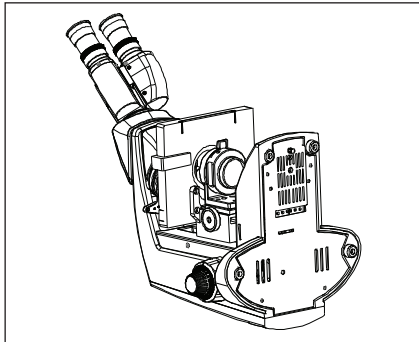

Fig. 1
2. To avoid potential electrical hazards while replacing either LED, turn the microscope main switch to the OFF position and disconnect power cord from wall outlet in advance. Whenever you replace your microscope LED, allow lamp socket and LED to cool before touching (Fig.1)